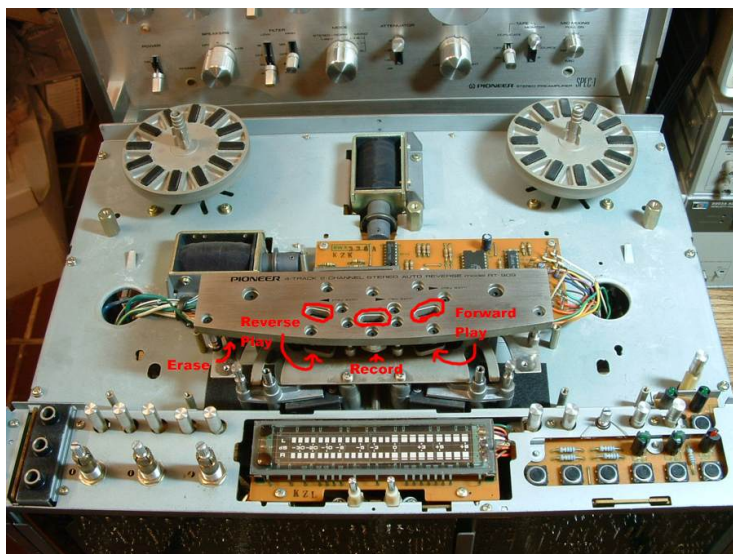

Figure 11: Heads
3. Remove each head, removing only the 2 screws for each head (circled wells in figure 11). Do not change the rotation of any other screw associated with the heads, as they establish the head alignment, and will provide a good alignment starting point for each head, when they return.